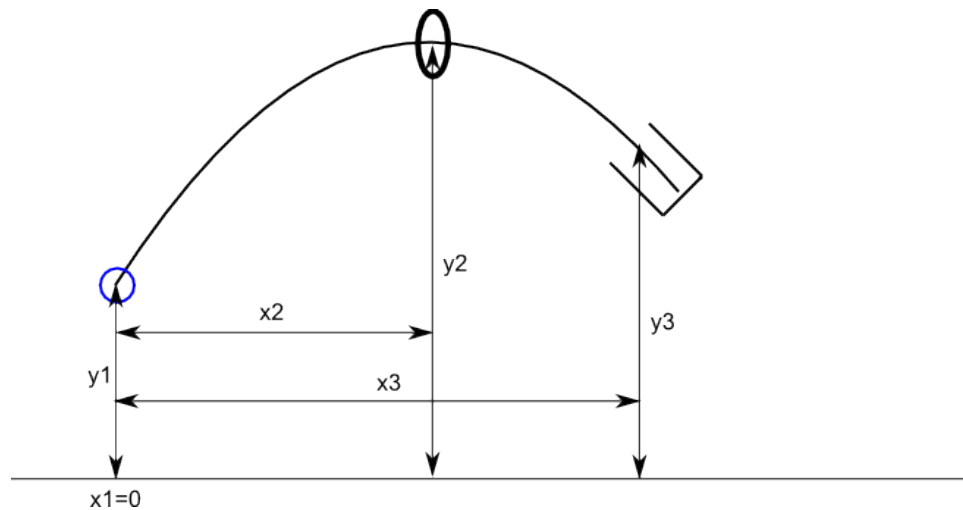

Figure 1: Geometry of the experimental setup
3. Compare your calculated vertical displacement of interpretation 2 to the experimental vertical displacement: $\Delta y = y_2 - y_1$ according to figure 1. Use the % difference formula to compare.